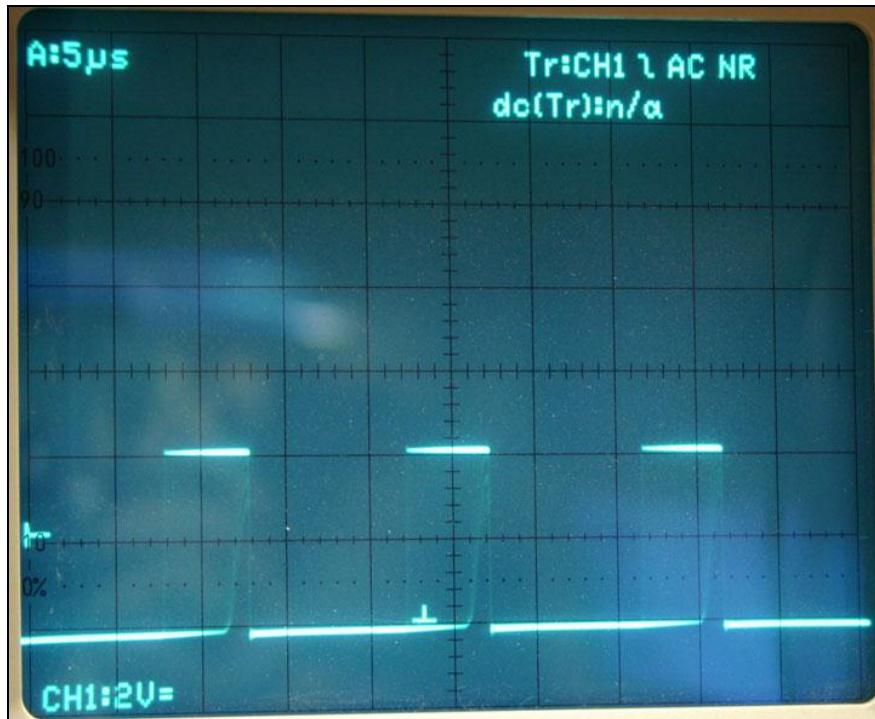

Fig. 11
11.	Mains switch ON. Check waveform on power supply oscilloscope (fig. 11).